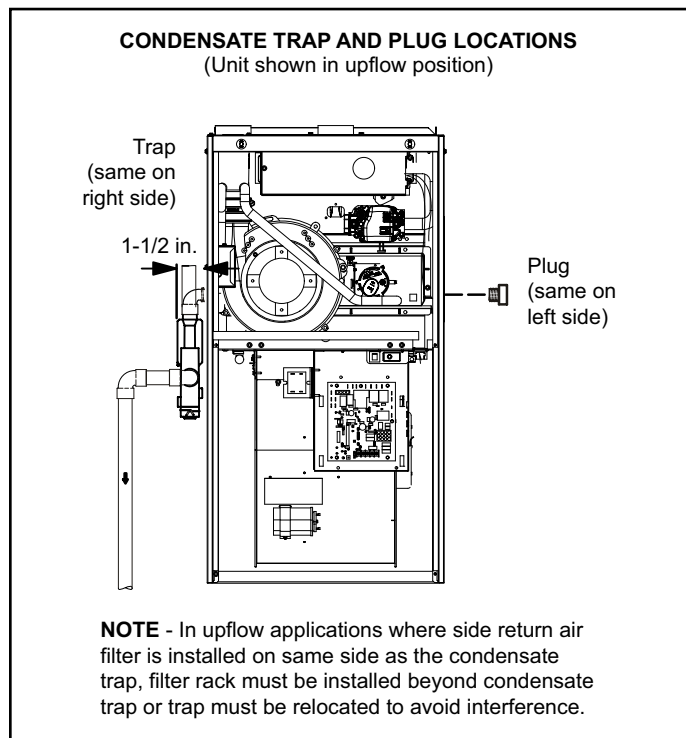
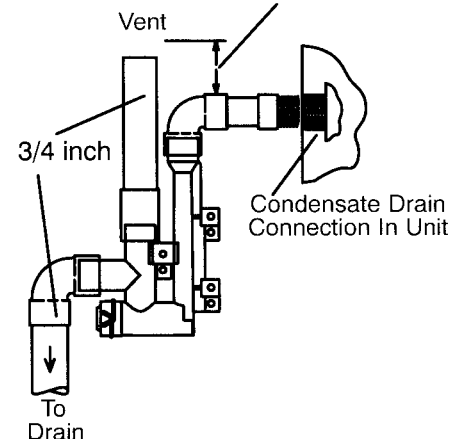

Figure 52.
Figure 59. Trap / Drain Assembly Using 1/2" PVC or 3/4" PVC
This unit is designed for either right or left side exit of condensate piping in upflow applications. In horizontal applications, the condensate trap must extend below the unit. An 8" service clearance is required for the condensate trap. Refer to Figure 52 for condensate trap locations. Figure 59 shows trap assembly using 1/2" PVC or 3/4" PVC.
2. Use a large flat head screw driver or a 1/2" drive socket extension and remove plug (Figure 52) from the cold end header box at the appropriate location on the side of the unit. Install provided 3/4 NPT street elbow fitting into cold end header box. Use Teflon tape or appropriate pipe dope.
4. Install drain trap using appropriate PVC fittings, glue all joints. Glue the provided drain trap as shown in Figure 59. Route the condensate line to an open drain. Condensate line must maintain a 1/4" downward slope from the furnace to the drain.